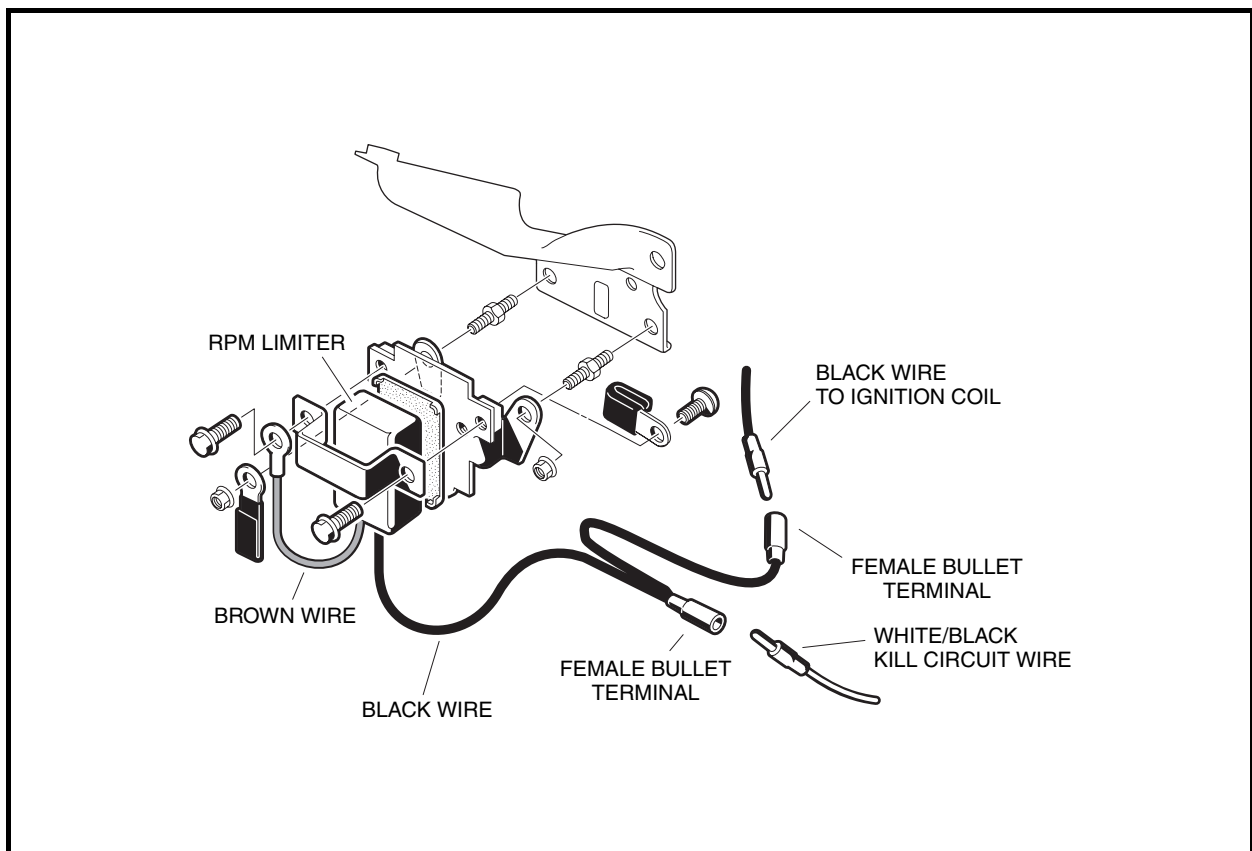
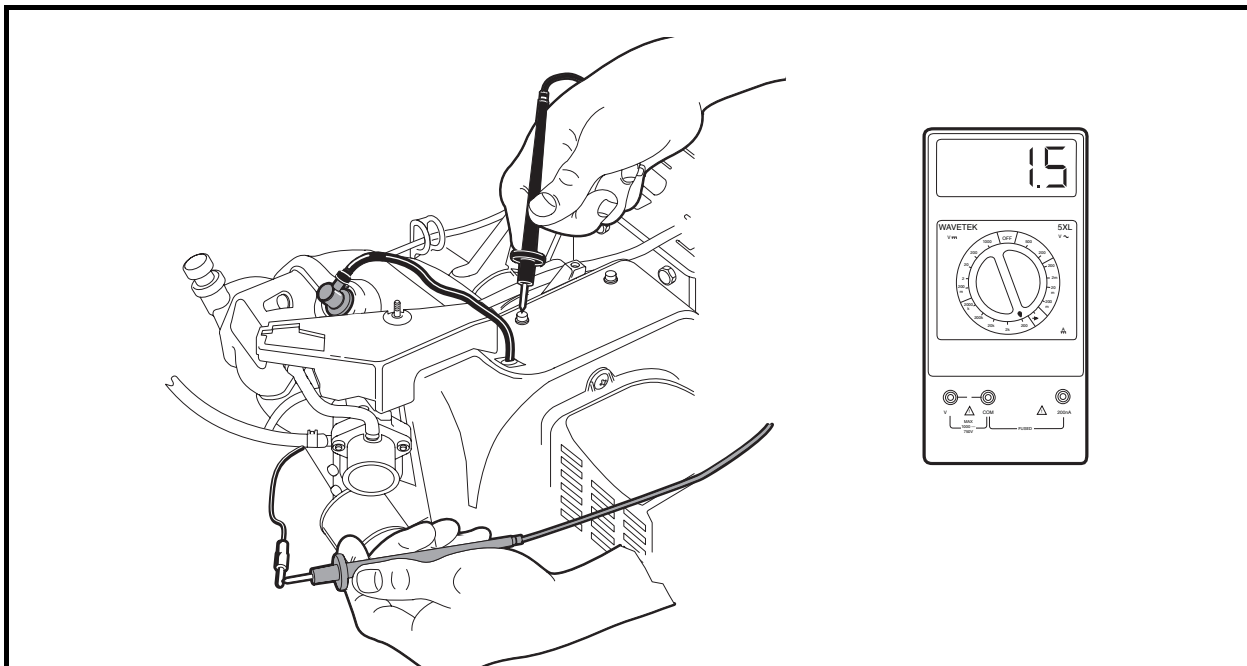

Figure 11-24 RPM Limiter
Figure 11-25 Primary Coil Resistance – In Vehicle Test
2. Disconnect both of the bullet terminals (**Figure 11-24, Page 11-25**).
- 2.1. Disconnect both of the bullet terminals at the RPM limiter (**Figure 11-24, Page 11-25**). Place the red (+) probe of the meter on the male bullet terminal of the wire connecting to the ignition coil under the fan housing, and place the black (-) probe on a clean unpainted surface of the engine or frame (**Figure 11-25, Page 11-26**).